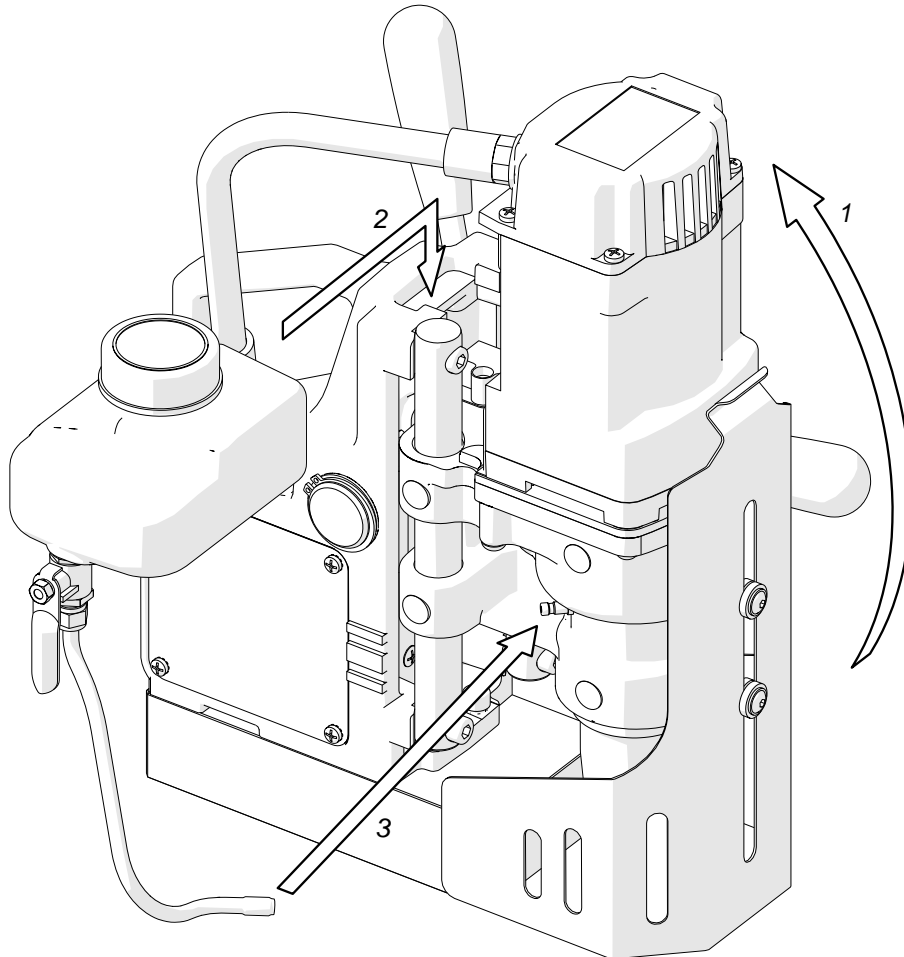

Fig. 4. Installing the cooling system bottle
Rotate the handles (1, Fig. 4) to raise the motor, place the cooling system bottle on the machine (2), and then attach the bottle hose to the hose fitting (3).